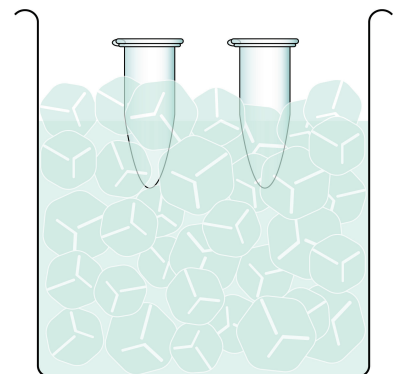

Fig. 12
12. Leave the tubes on ice for a minimum of **30 minutes** (Fig. 12).